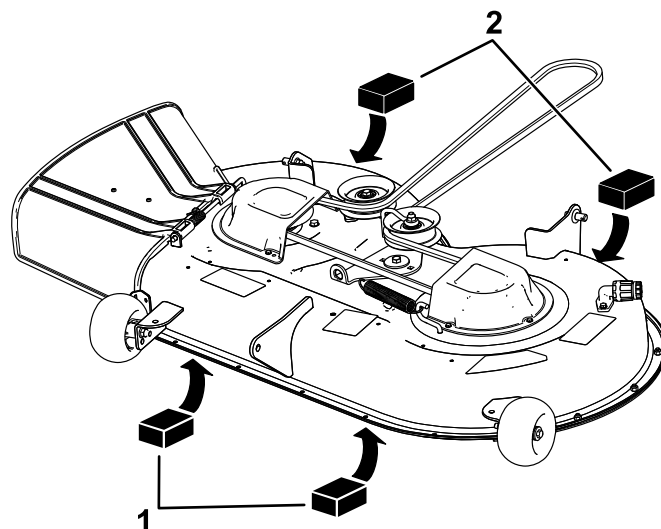

Figure 69
4. Place 2 blocks, each having a thickness of 6.6 cm (2-5/8 inches), under each side of the front edge of the deck but not under the anti-scalp roller brackets (Figure 69).
5. Place 2 blocks, each having a thickness of 7.3 cm (2-7/8 inches), under the rear edge of the cutting deck skirt, 1 on each side of the cutting deck (Figure 69).